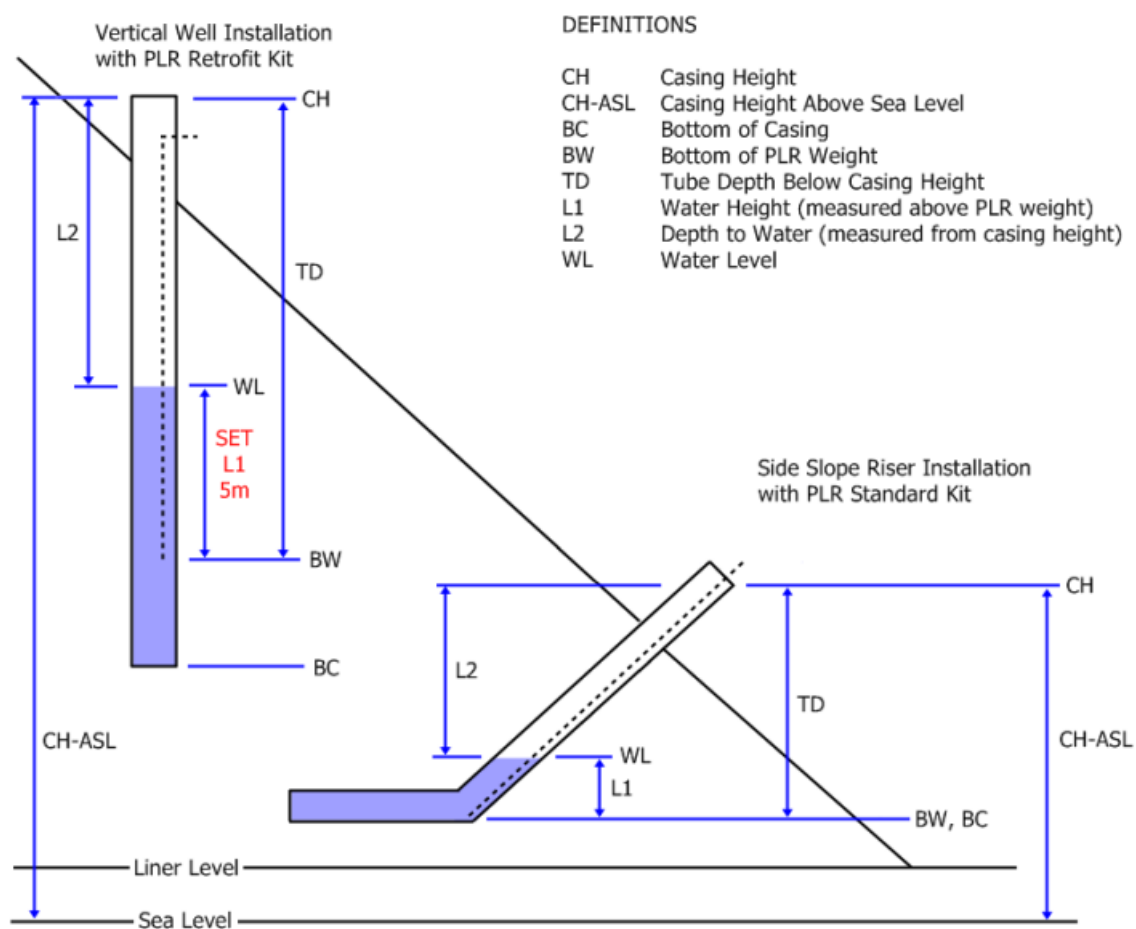

Figure 1 - Measurement References
The PLR is a powerful but simple tool to use. Refer to Figure 1 below when setting up and entering information on the system. The system can measure and display water levels from the casing height (CH) down to the water level (WL) = reading L2, or from the bottom of the PLR weight (BW) to the water level (WL) = reading L1. Both readings, along with the water height above sea level (if the well configuration information is completed) are stored in the database when the Save button is pressed.